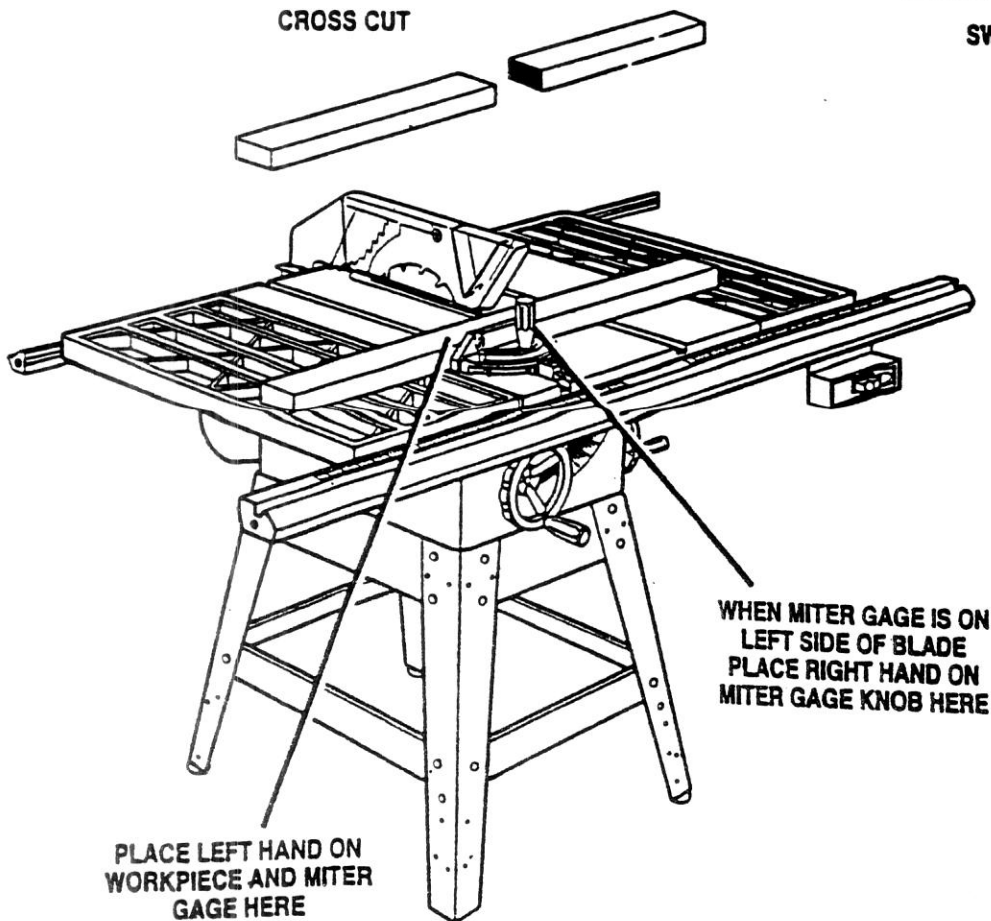

Fig. 48
See Figures 48 49 50, and 51
- Set the miter gage to 0°. See Figure 48. Make sure miter gage knob is securely tightened.
- The miter gage may be used in either of the two grooves in the table. When using left groove, hold workpiece firmly against the miter gage base with your left hand and grip the knob with your right hand. When using right groove, hold workpiece firmly against the miter gage base with your right hand and grip the knob with your left hand. See Figure 48.